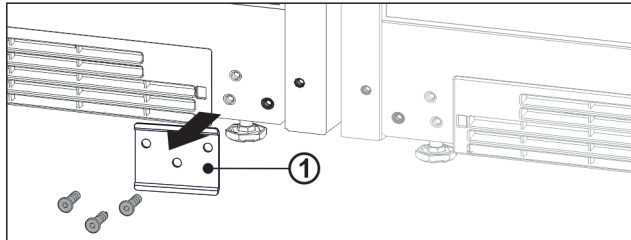

Fig. 13
- ▶ If the metal plate *Fig. 13 (1)* is installed, unscrew the metal plate.